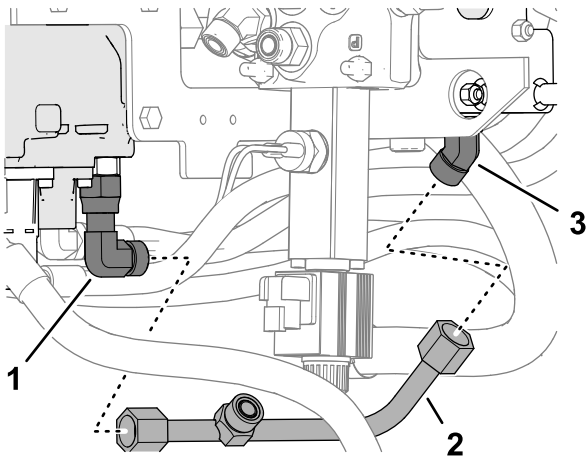
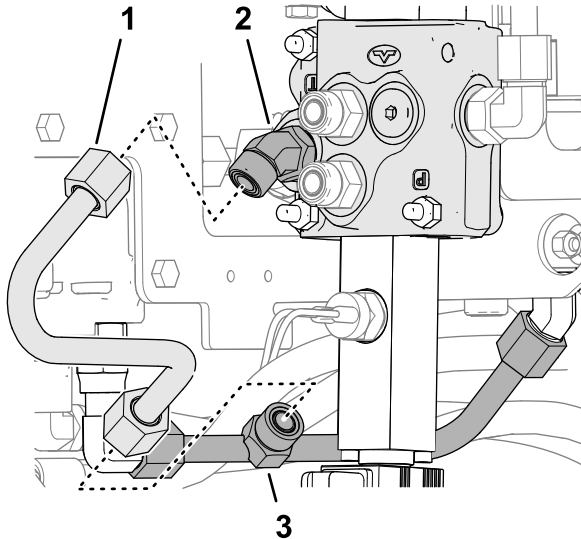

Figure 19
Figure 20
- Loosely assemble the manifold tube to the 90° fitting of the loader-arm valve and the 45° fitting (bottom) in port-T of the low-flow valve (Figure 19).
3. Loosely assemble the S-shaped tube to the fitting in the manifold tube and the 45° fitting in port-T of the auxiliary valve (Figure 20).
4. Torque the 90° fitting of loader-arm valve port-T (Figure 19) and the 45° fitting in auxiliary valve port-T (Figure 20) to 79 to 98 N·m (58 to 72 ft-lb).